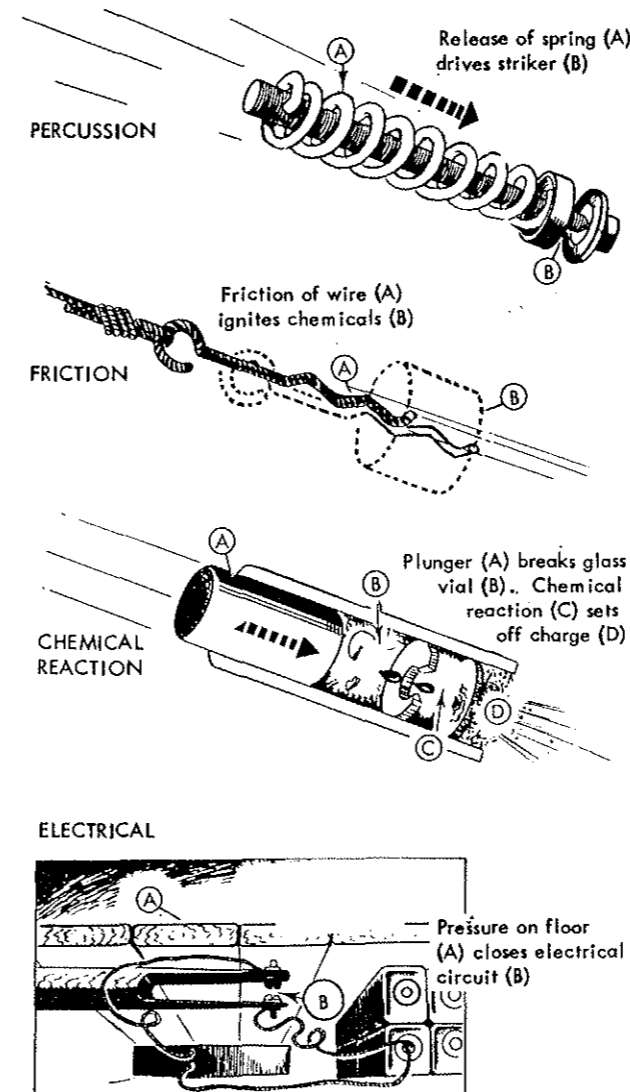

Figure 39.
a. Percussion. A striker fires a percussion cap (figs. 39, 40, and 41).
b. Friction. Friction ignites substances within the fuze (figs. 39 and 42).
c. Chemical. Chemical action, usually accomplished by the breaking of a vial allowing a chemical to come in contact with another chemical or with air, results in flame or explosion (fig. 39).
d. Electrical. The closing of an electric circuit fires an electric cap. The current may be provided either by a battery or by chemical reaction within the fuze (figs. 39 and 42).